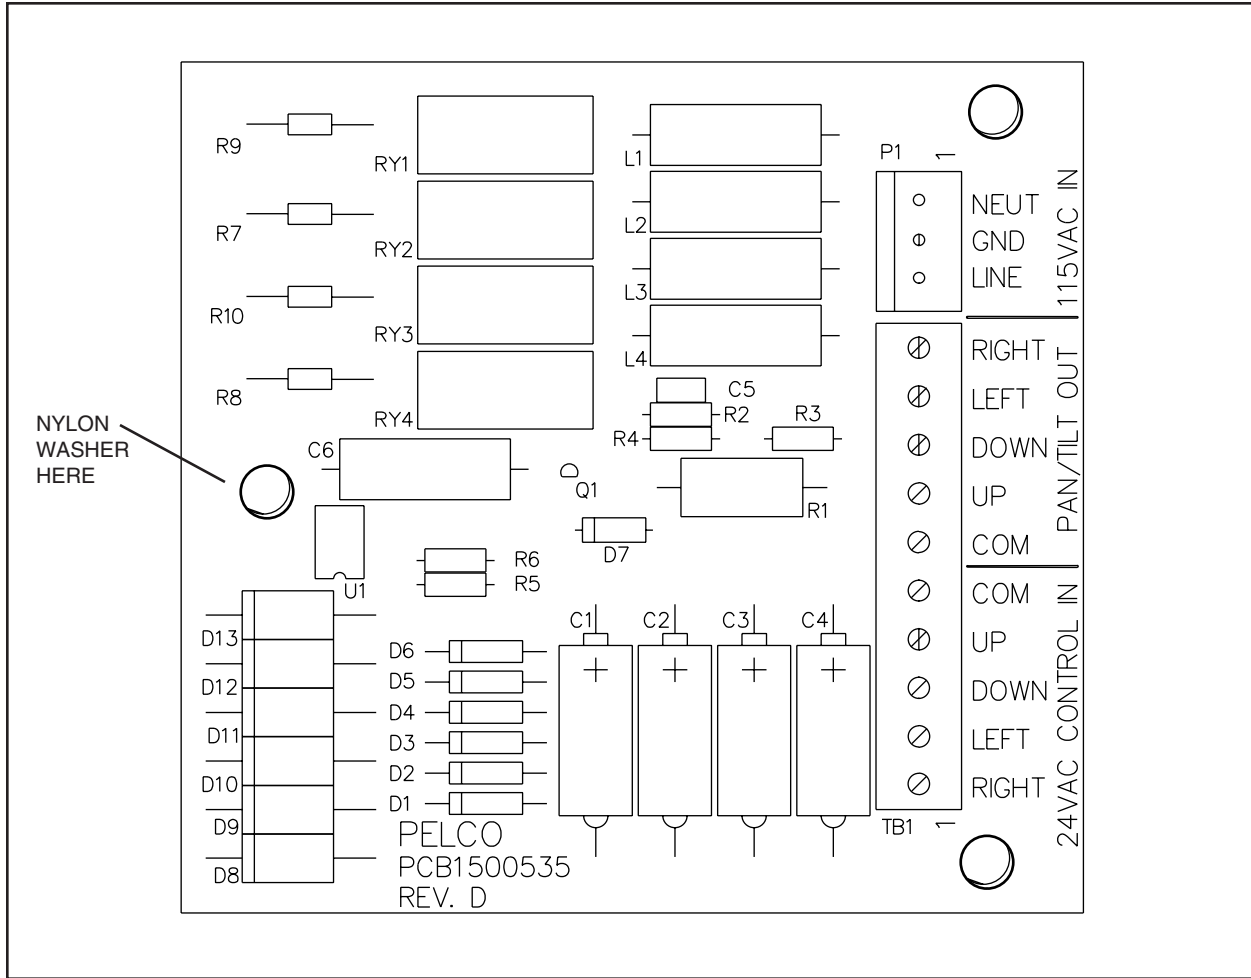
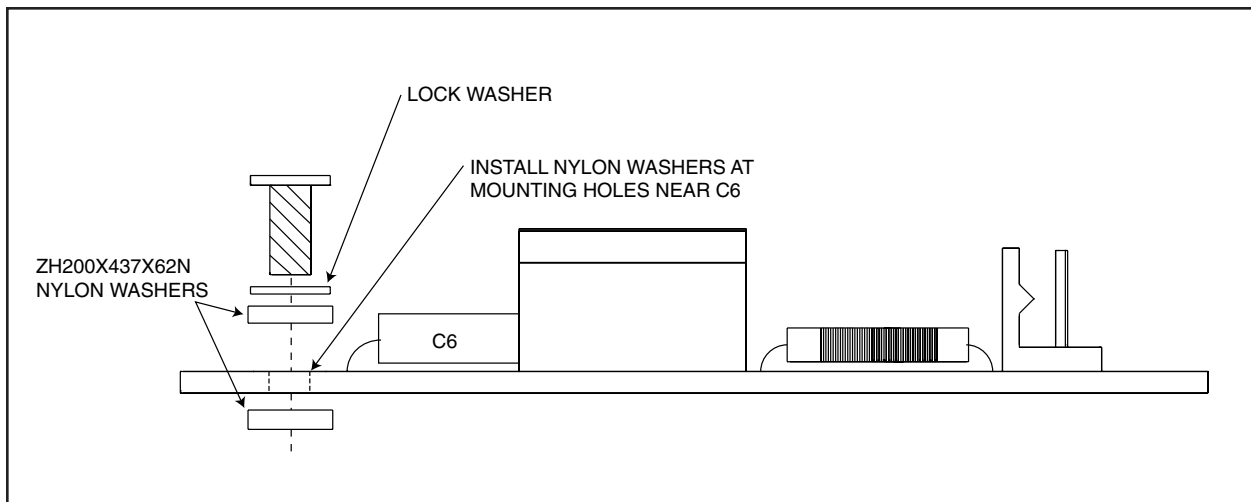

Figure 1. PC Board Component and Mounting Locations
Figure 2. PC Board Side View Showing Screw and Washer Locations
2. Refer to Figure 1. Disconnect the 115 VAC IN plug to the transformer and disconnect the PAN/TILT OUT, and 24 VAC CONTROL IN connections.
3. Unscrew the three (3) screws attaching the PC board to the relay box and remove the old PC board. Save the screws and lock washers to attach the new PC board.
5. Refer to Figure 2. Install the top screw first (located near C6). Install the PC board by putting a lock washer and nylon washer on a screw and inserting it through the hole in the PC board. Then put a nylon washer under the PC board and tighten the screw into the standoff as needed. Do not over tighten. Insert the screws in the bottom holes in the PC board and tighten until firmly attached.